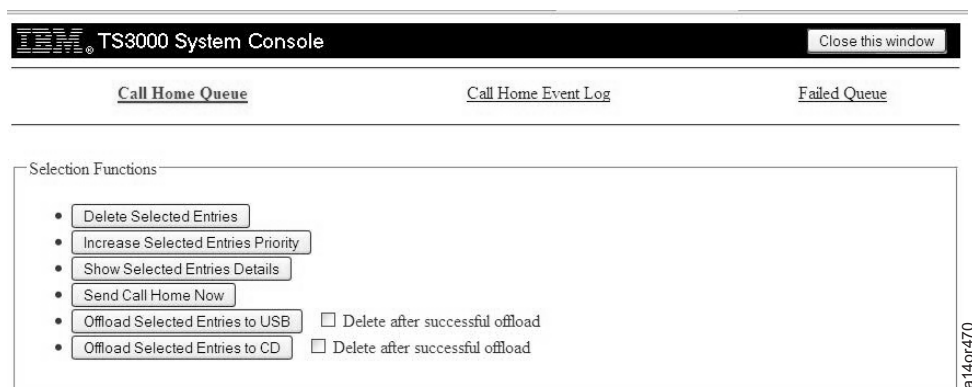

Figure 3-28. Call Home Queue Management - Main Screen
- Click **Call Home Queue**. You see the Figure 3-28. The various call home record types (in the "Type" column) are described in Table 3-3 on page 3-24.
Table 3-3. Call Home Record Types. From the Type column in Figure 3-28 on page 3-23.